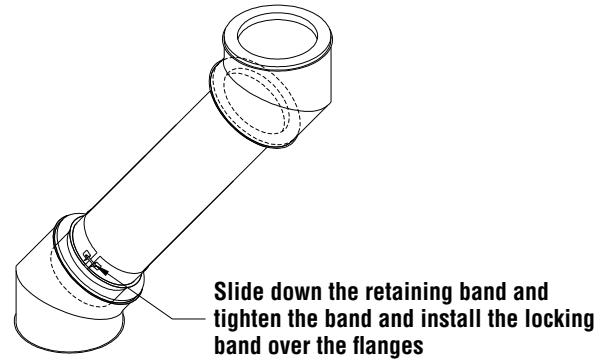

Figure 63 - Variable length, Installation step E
- e. Slide down the retaining band to the female coupling to mate their flanges and tighten the band. Then, install the locking band over those flanges. See **figure 63**.